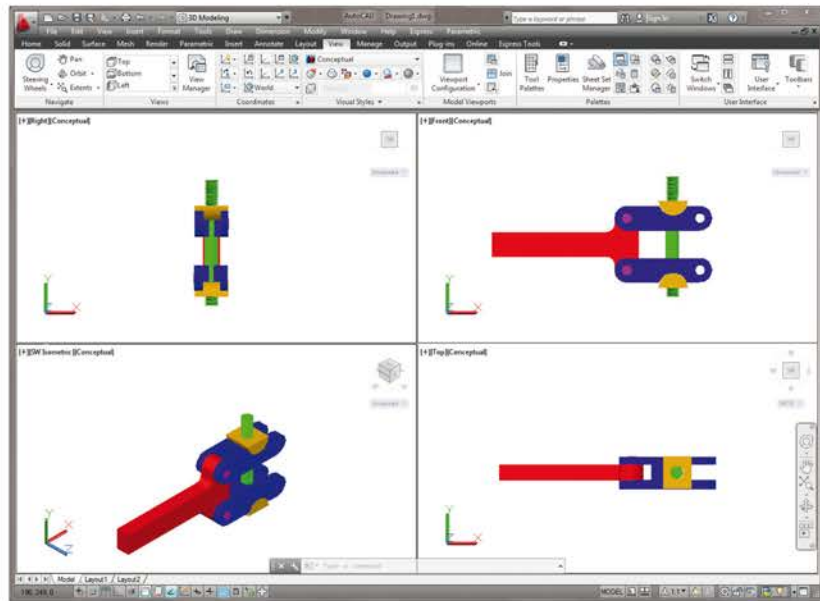

Fig. 11.4 First example – Inserting 3D blocks
(FIG. 11.4)
7. Using the **Move** tool, move the individual 3D models into their final places on screen and shade the viewports using **Conceptual** shading from the **View/Visual Styles** panel (Fig. 11.4).